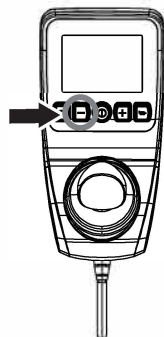

Fig.12
**8.4.4** Press the power switch lightly, the battery and speed indicators will light up, and press the "-" key to adjust the speed to 1 level. Speed requirements for each gear(**Fig.12**):